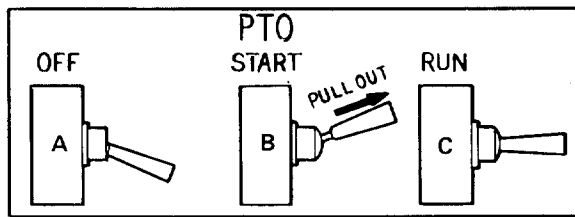

Figure 20
2. Flip the toggle switch to the "RUN" position. (See Figure 20.)